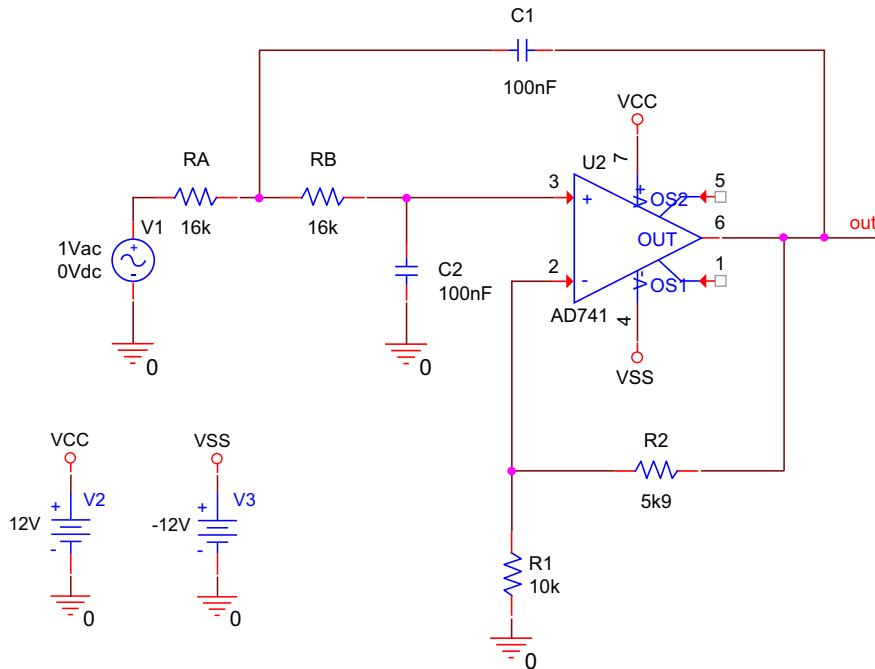

FIGURE 12.9
1. Draw the Sallen and Key filter in Figure 12.9.